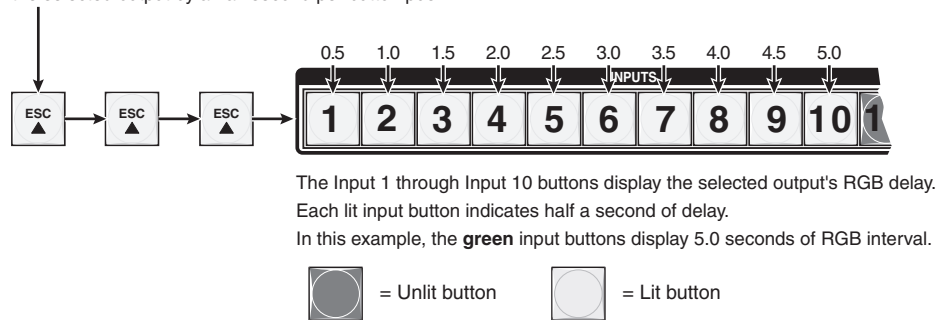

Figure 3-37 — Adjust the RGB delay interval
4. Press and release the Esc (▲) button once (figure 3-37) to increase the RGB delay by a half second.
Figure 3-37 show the result of pressing the Esc (▲) button a total of three times.